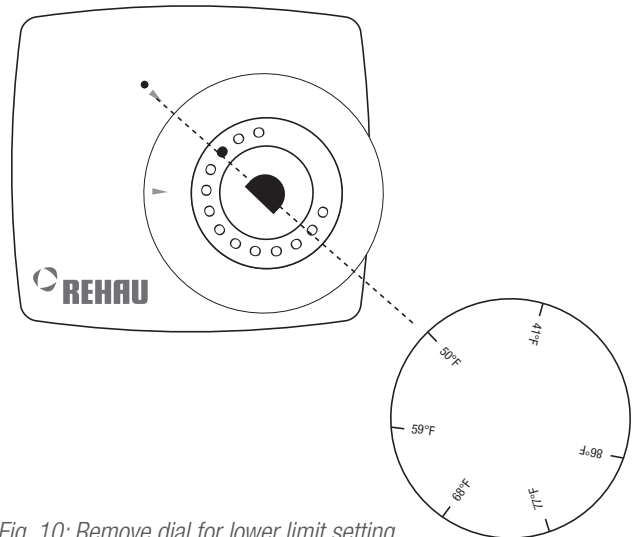

Fig. 10: Remove dial for lower limit setting
2. Carefully remove the dial and look at the position of the inner sleeve. The limit temperature is now lined up with the notch (see Fig. 10, black dot denotes pin location). To set it, choose the pin location above the notch.